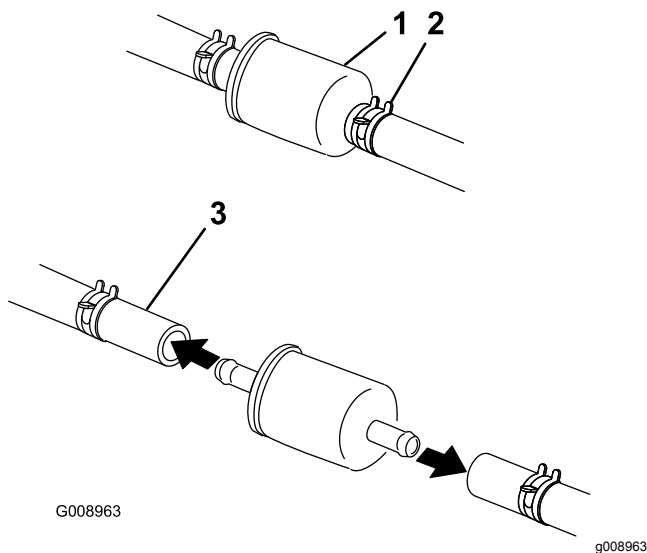

Figure 60
5. Squeeze the ends of the hose clamps together and slide them away from the filter (Figure 60).
7. Install a new filter and move the hose clamps close to the filter (Figure 60).